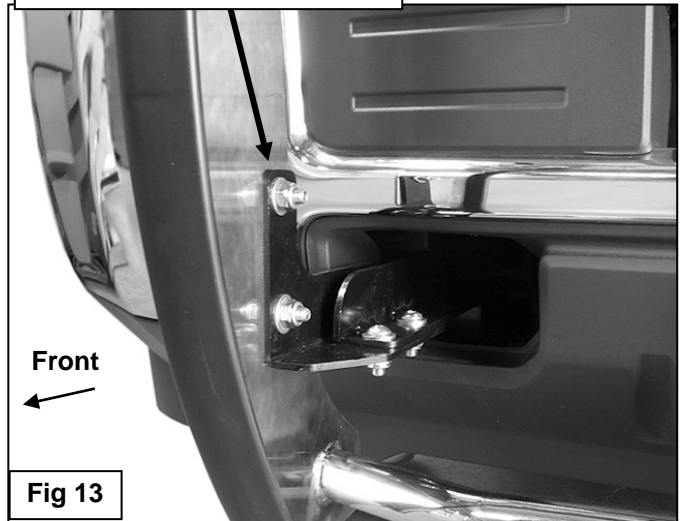

Fig 13
10. With assistance, hold the Grille Guard up in position on the outside of the Mounting Brackets. Bolt the Grille Guard to the Brackets with (4) 10mm x 30mm Button Head Bolts, (8) 10mm Flat Washers and (4) 10mm Nylon Lock Nuts, **(Figure 13)**. Do not tighten hardware at this time.